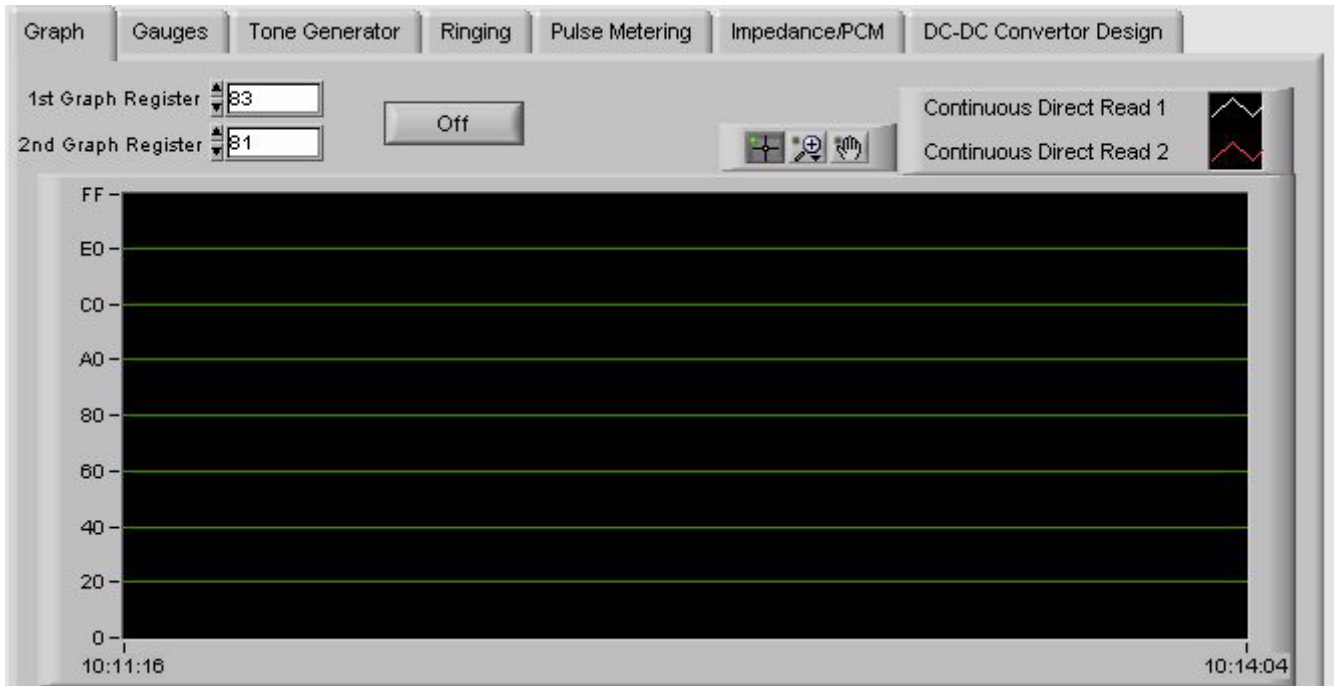

Figure 5. Graph Window
The *Graph* window allows the user to graph the values of two direct registers. (See Figure 5.) Enter the register numbers in the boxes labeled *1st Graph Register* and *2nd Graph Register*. To activate the graph push the on/off button. The color, plot style, line style, and line width can be adjusted by right-clicking on the plot legend above the graph. Zoom and pan tools are available to the left of the plot legend. To change the scale of the graph, click on the maximum and minimum numbers on the y-axis and type in new values.
- Figure 5 on page 4 updated.